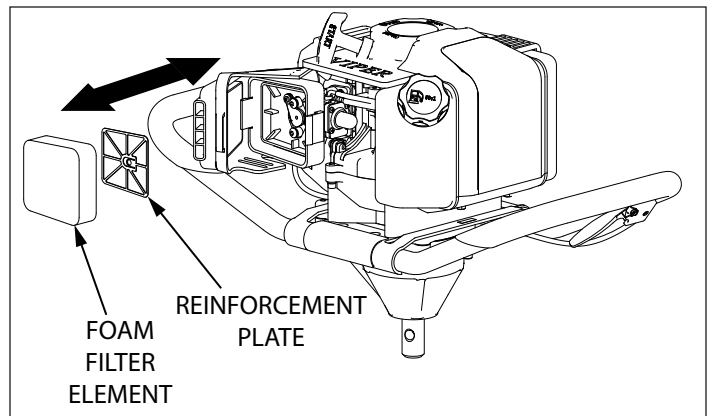

Figure 5
4. Remove the foam filter element (**SEE FIGURE 5**) and replace with a new oiled filter, or clean the original foam filter with warm water and mild soap by following the previous steps for Cleaning Air Filter. Remember to thoroughly oil the foam filter with 30 or 40 weight motor oil and squeeze out any excess oil.